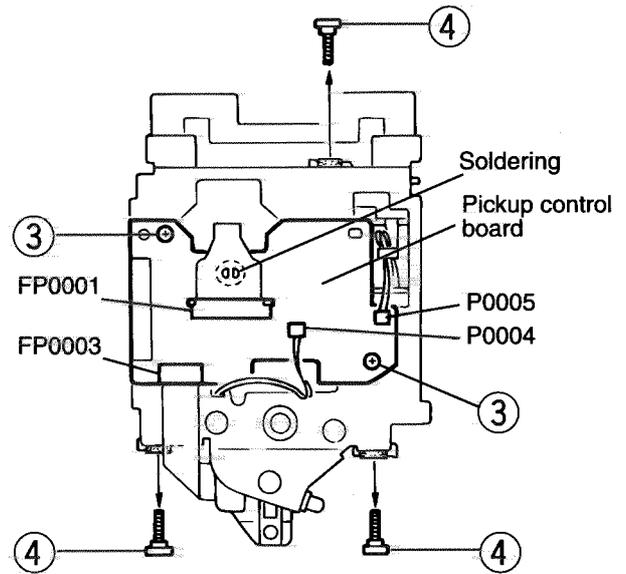

Fig. 7
■ **Removing the Pickup Control Board (See Fig.7 and 8)**
(See Fig.7 and 8)
■ **Removing the Chassis Flame (See Fig.7)**
3. Remove the three screws ④ attaching the chassis flame and the damper.